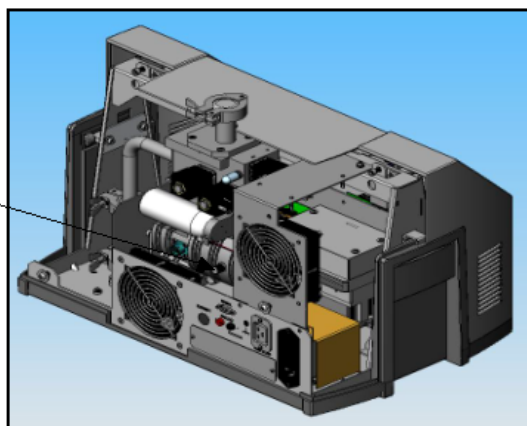

Figure 13: Vent Valve
31. Ensure that the vent valve on the turbo molecular pump (if installed) is tightened (Figure 13: Vent Valve).